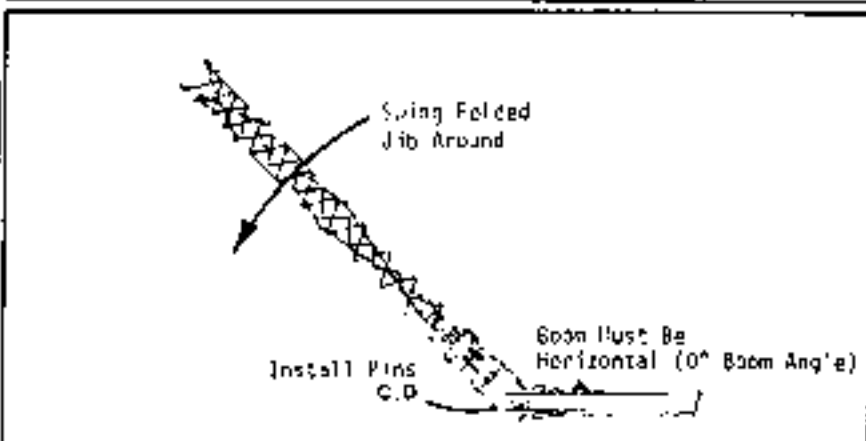

Fig. 4-20
- Step 4: Swing the folded jib around to align with the boom head. Install pins and keepers at "C" and "D" to secure jib to left side of boom head as in Fig. 4-20.